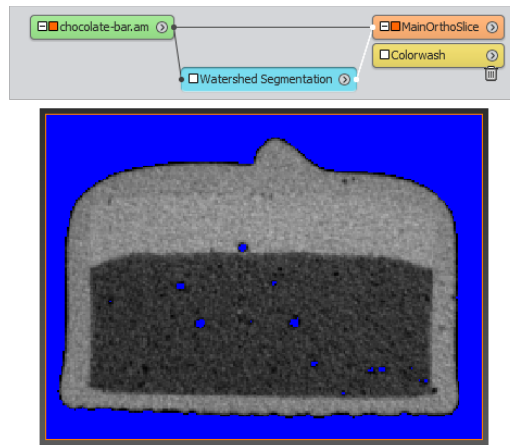

Figure 6.76: The *Watershed Segmentation* wizard at step 4.
- You can use 0-435 as range (see Figure 6.76).